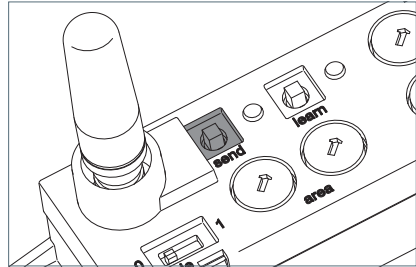

Fig. 25: "send" key
- ▶ Press the "send" key, see Fig. 25.